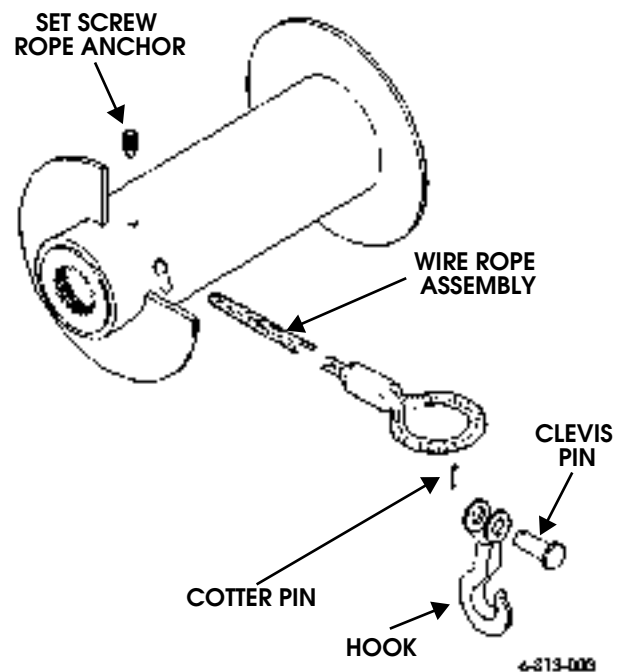

Figure 9-161: Winch Cable
2. Remove set screw and winch cable from drum assembly (Figure 9-161).